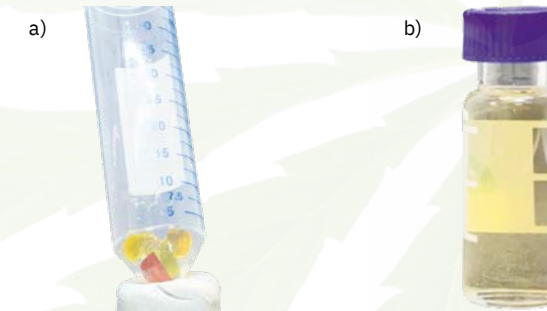

Figure 3: Extraction flow path
Spiking with specific quantities of spiking solution A or B was carried out and allowed to absorb into the gummy before proceeding with the extraction method depicted in Figure 3.
Additional precision samples, spiked with solution (B) to contain all 11 cannabinoids, were also analyzed using the high sensitivity method. Due to the lower concentration of minor cannabinoids within samples they did not require the additional dilution step after extraction (Figure 3).
The three selected commercially available products were extracted and analyzed for all 11 cannabinoids. In sample 1 and 2, the 10 minor cannabinoids were quantified using the non-diluted extract (A), while CBD was determined in the dilution (4 x as described in Figure 3). As sample 3 showed a lower amount of CBD, all cannabinoids were quantified using the non-diluted extract (A). Results of the quantification of cannabinoid content in real-life samples are displayed in Tables 4–6.